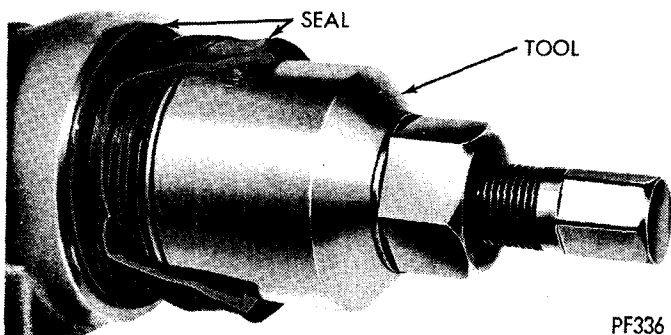

Fig. 21—Removing Extension Housing Yoke Seal
(2) Remove the extension housing yoke seal (Fig. 21) with Tool C-748.
(1) Remove oil seal with Tool C-3985 (Fig. 21).